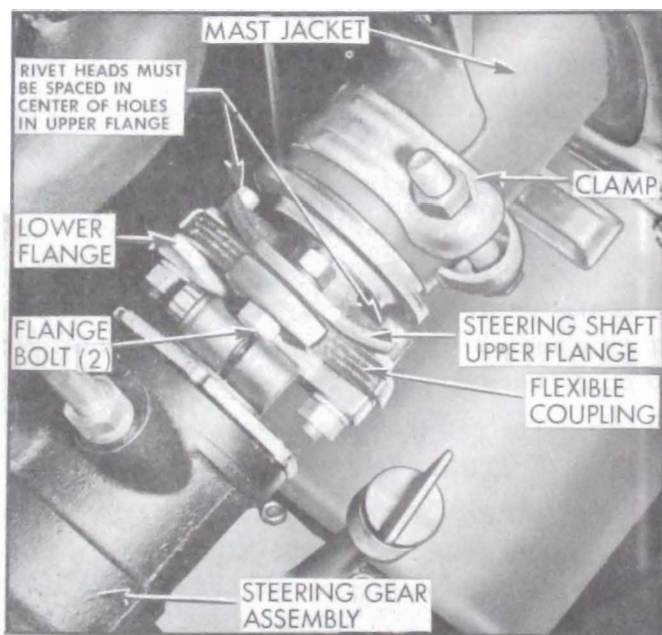

Figure 8-21—Power Steering Gear Coupling
3. Disconnect the two upper-to-lower flange bolts. See Figure 8-21.
IMPORTANT: *When installing gear assembly in car, the riveted pins on the lower flange and flexible coupling must be installed in the center of their correct slots in the upper flange (small pin in small slot and large pin in large slot). See Figure 8-21. The clip on the loose end*